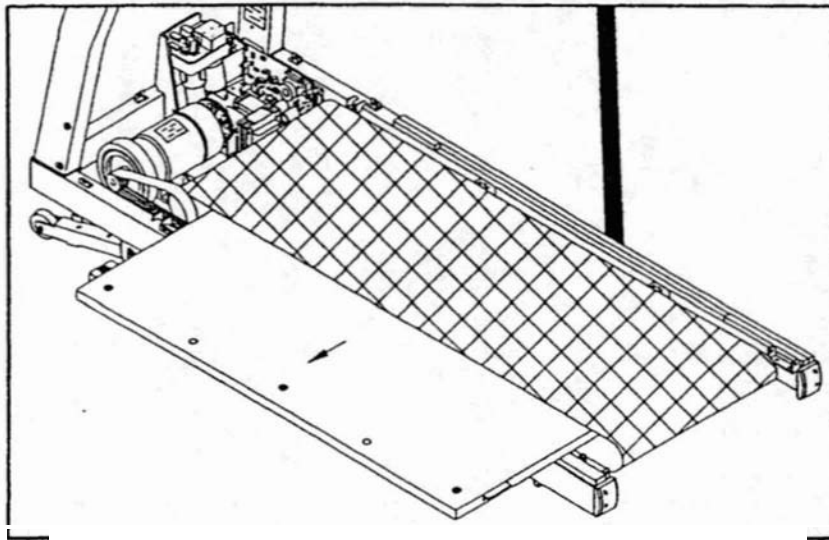

Fig.9
10. Slide the running deck out and put it aside.(see Fig.9)